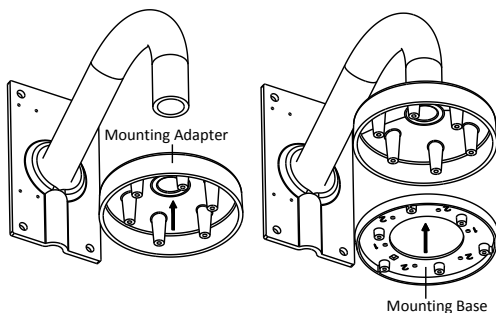

Figure 2-11 Install the Mounting Base
2. Install the wall mount and mounting adapter as shown in Figure 2-11.